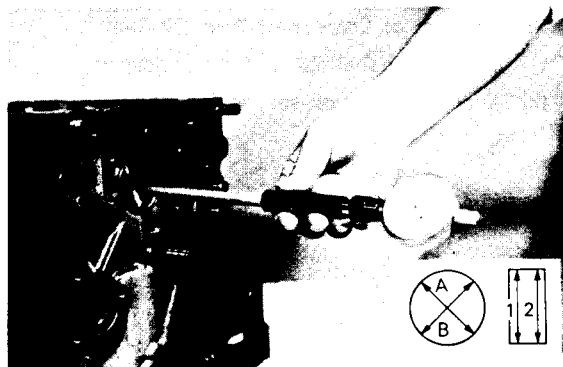

Figure 105
8. Check the crankshaft oil clearance. Oil clearance is calculated by subtracting the diameter of the main journal or crankpin from the inside diameter of the main bearing or rod bearing. The inside diameter of each crankpin or main journal should be measured at two places, "1" and "2", in two directions, "A" and "B" (Fig. 105) after the bearing cap is installed at the proper torque. If the oil clearance exceeds the service limits, install a new bearing. If installing the new bearing does not reduce the clearance to within service limits, the crankshaft must be reground and oversize bearings installed.